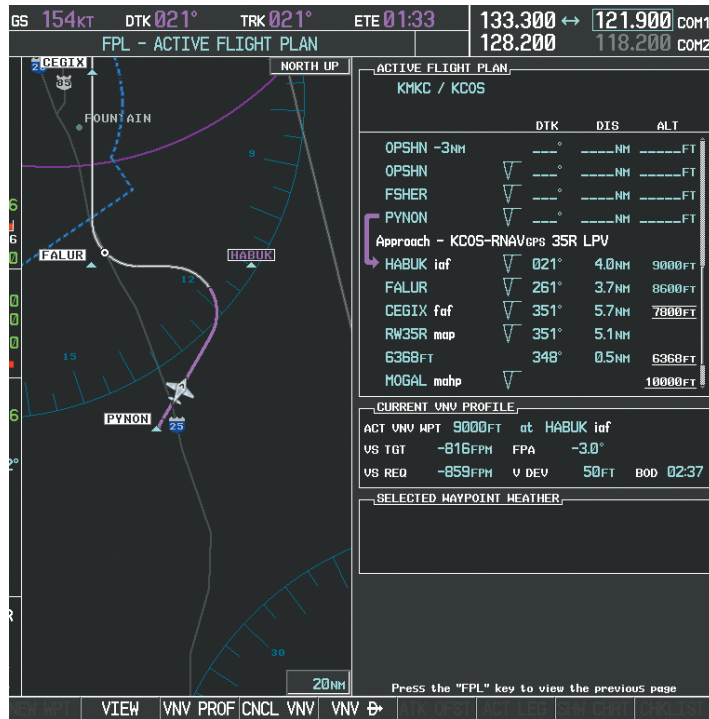

Figure 5-146 Approach is Now Active
21) Upon passing PYNON the approach procedure automatically becomes active. The approach may be activated at any point to proceed directly to the IAF. In this example, the aircraft has progressed through the final waypoint of the arrival and the flight plan has automatically sequenced to the IAF as the active leg, activating the approach procedure (see Figure 5-146).